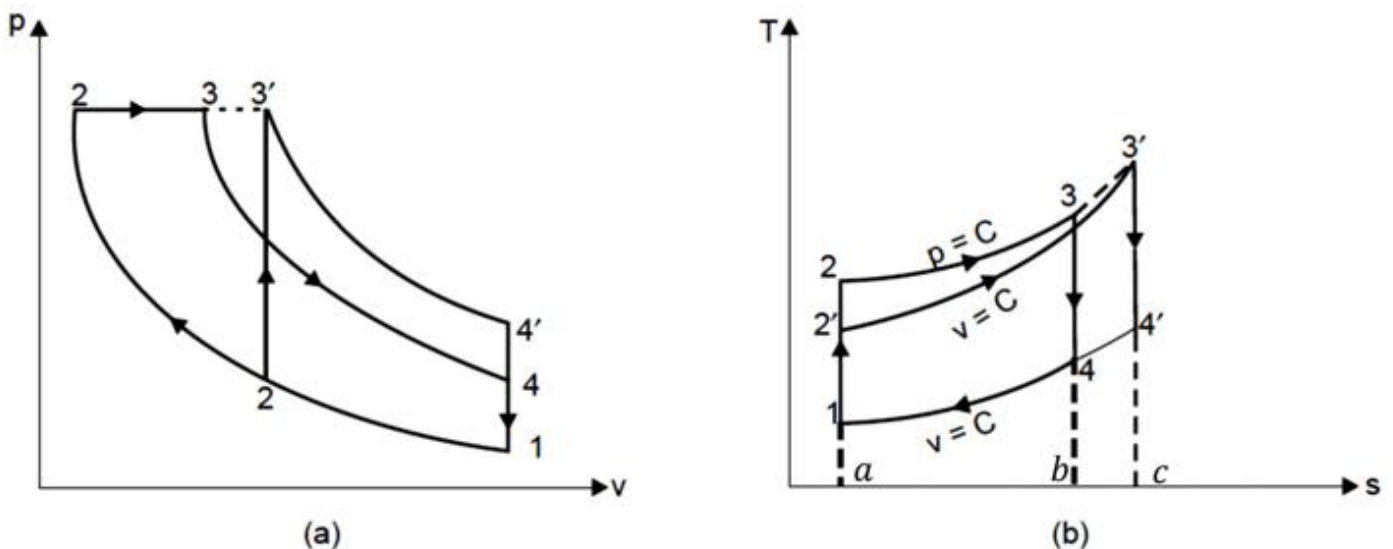

Fig. 7.10 (a) P-V diagram and (b) T-S diagram
- Fig. 7.10 shows the Otto and Diesel cycles on P-V and T-S diagrams for constant maximum pressure and heat input respectively.
- From Fig. 7.10,